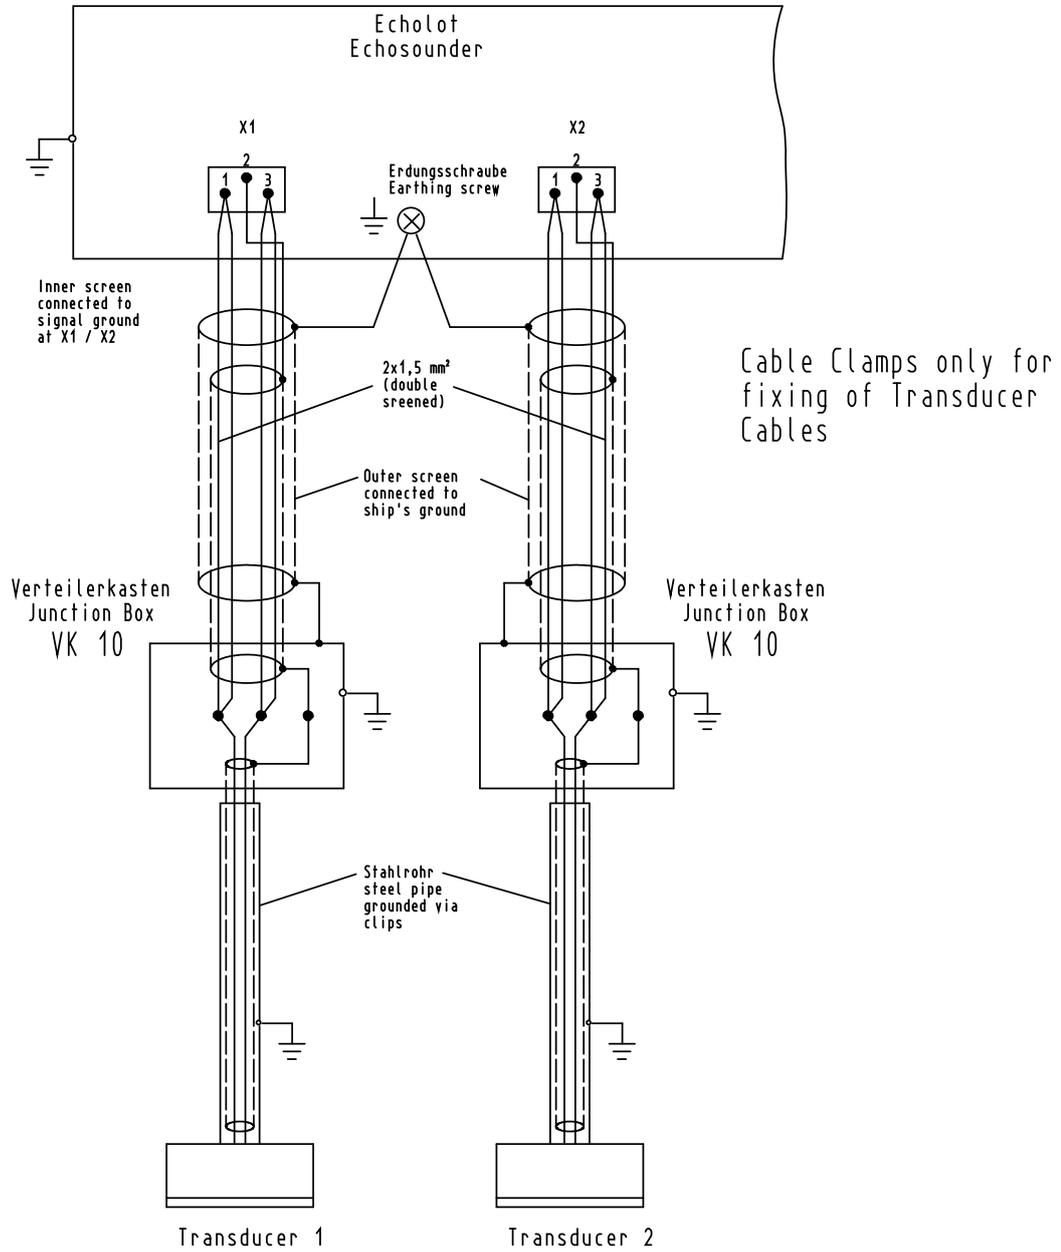

Figure 5-1 Instruction for transducer - cable connection
- a double-screened cable is used as transducer cable, the inner screen is one-side connected to the echo sounder's ground, the outer screen is connected to the ship's ground on both sides (see Figure 5-1).